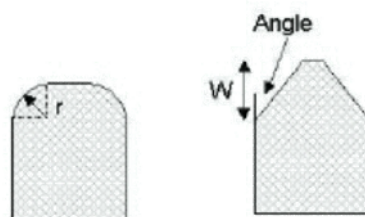

Figure 6.28 Rounding type for opening type I (Left: corner; Right: wingwall)
**Radius.** Radius of the corner ( $r$ , in Figure 6.28 above).
**Width.** Width of the wingwall ( $W$ , in Figure 6.28 above).
**Angle (Entrance rounding).** Angle of the corner (Angle, in Figure 6.28 above).